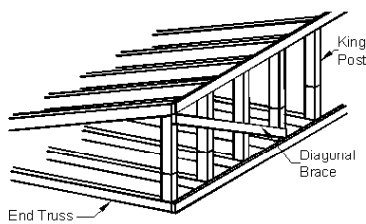

Figure 31. Diagonal bracing
5. **Install Bracing. (optional)** Install diagonal bracing at both ends of each home section from the top of the gable end truss approximately 45 degrees downward. Keep trusses plumb and secure the brace with two (2) 7/16" x 1-3/4" x 16 ga minimum staples per truss (**Figure 31**).